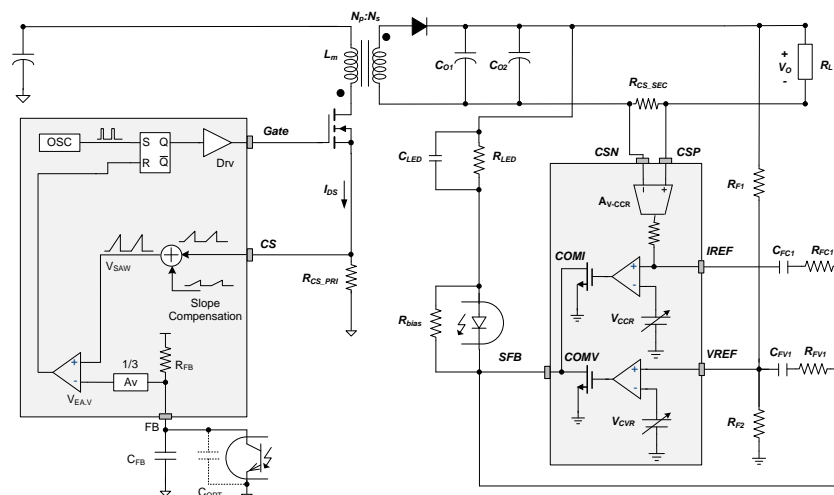
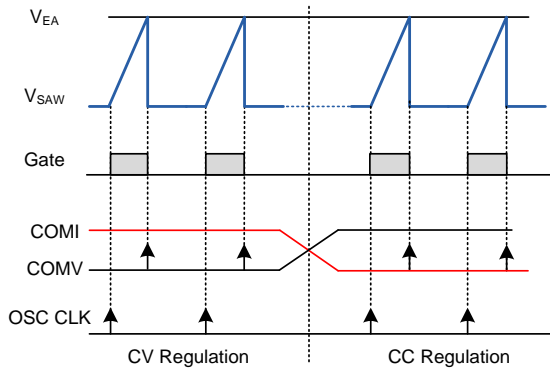

Figure 35. Internal PWM Control Circuit
Figure 36. PWM Operation for CV and CC
Figure 35 shows the primary-side internal PWM control circuit of the FAN501A and secondary side regulator circuit of the FAN6100HM which consists of two operational amplifiers for Constant Voltage (CV) and Constant Current (CC) regulation with adjustable voltage references.
V_{EA} is compared with an internal sawtooth waveform (V_{SAW}) by PWM comparators to determine the duty cycle. As seen in Figure 35, output of the comparator is used as a reset signal of flip-flop to determine the MOSFET turn-off instant. The lower signal, either COMV or COMI, is transferred to the primary-side to determine the duty cycle, as shown in Figure 36. During CV regulation, COMV is transferred to the primary-side to determine the duty cycle while COMI is saturated to HIGH. During CC regulation, COMI is transferred to the primary-side to determine the duty cycle while COMV is saturated to HIGH.